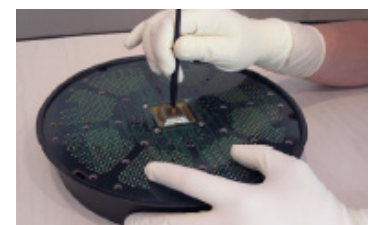

Figure 3
2. Hold the brush vertical to the probe face (see Figure 3).
3. Starting from either the left or right side of the probe face (see Figure 3), use a circular motion to clean across the probe face and back again. Use enough force to feel the probe tips. If the brush tip begins to dry, apply more IPA or methanol. Do not allow the brush to dry out.